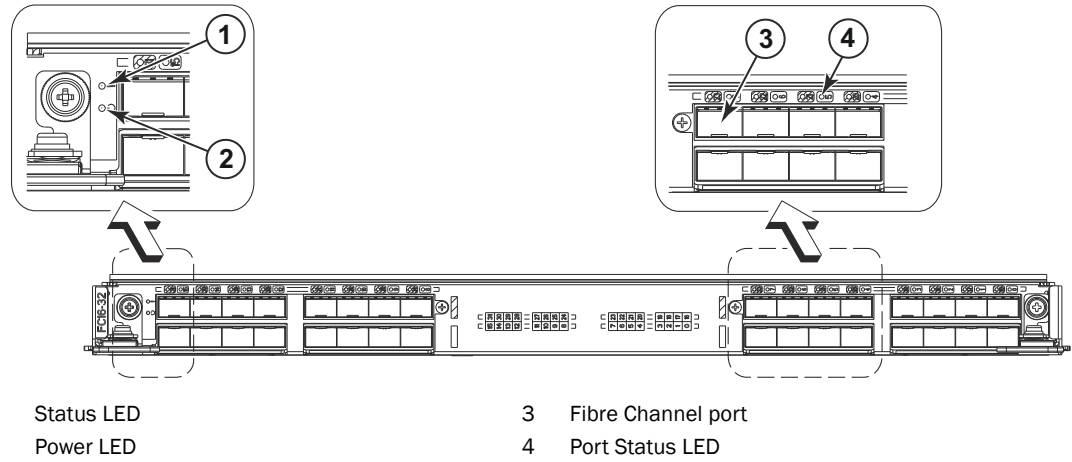

FIGURE 9 FC16-32 port blade
- Figure 9 illustrates the FC16-32 port blade.